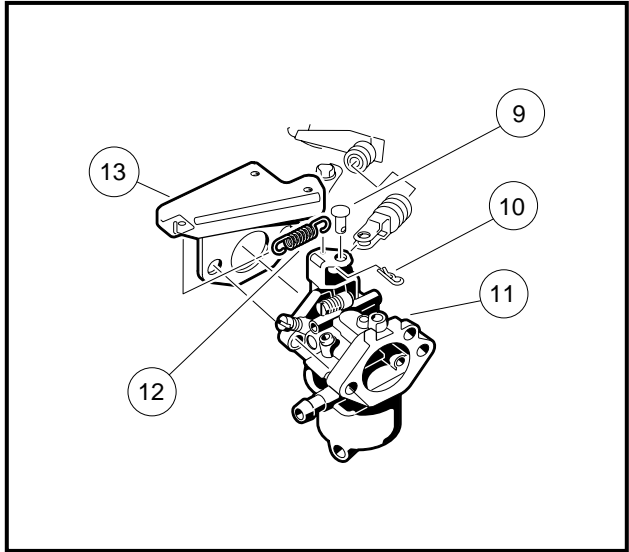

Figure 13-40 Governor Cable Connection
5. Install carburetor (11), throttle spring (12) and the throttle spring bracket (13). Tighten to 50 in-lb (5.6 N·m) (**Figure 13-40, Page 13-22**).